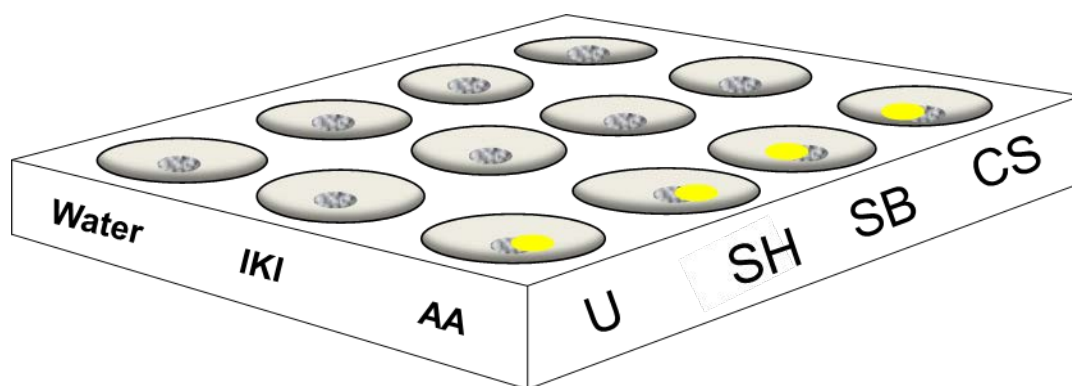

Figure 7: Step 9 reference. The yellow circles represent 2 – 3 drops of acetic acid (vinegar) in each of the four wells lined up with the **AA** label.
9. Remove the lid of the acetic acid (vinegar). Use the drip bottle to place 2 - 3 drops of acetic acid into the four wells that are lined up with the **AA** label (Figure 7).